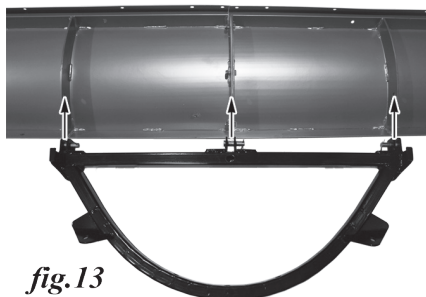

fig.13
- Align the D frame's 3 attachment points with the two vertical centre ribs of each plow blade panel as well as the double, joined vertical ribs in the middle of the plow (fig.13). Insert clevis pins through each attachment point and the vertical ribs on the back of the blade.